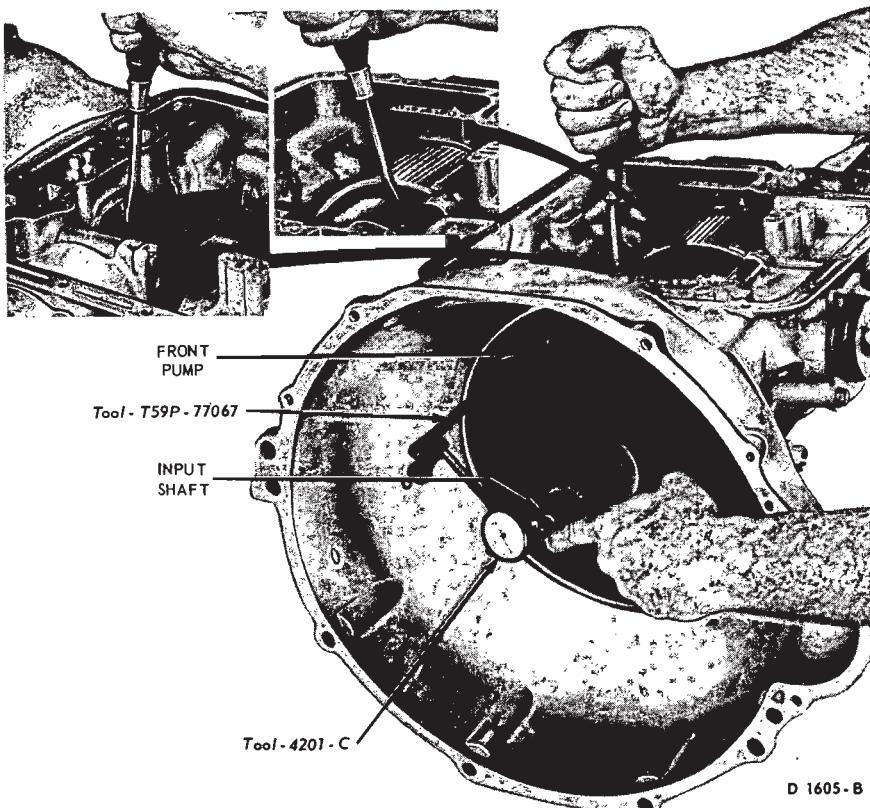

FIG. 24—Checking Gear Train End Play
4. Attach a dial indicator to the front pump as shown in Fig. 24. Install tool T61L-7657-B in the extension housing to center the shaft.
5. Pry the gear train to the rear of the case and at the same time, press the input shaft inward until it bottoms (Fig. 24). Set the dial indicator to read zero.
6. Pry the gear train forward (Fig. 24) and note the amount of gear train end play on the dial indicator. Record the end play to facilitate assembling the transmission. Remove the dial indicator from the pump and the tool from the extension housing.